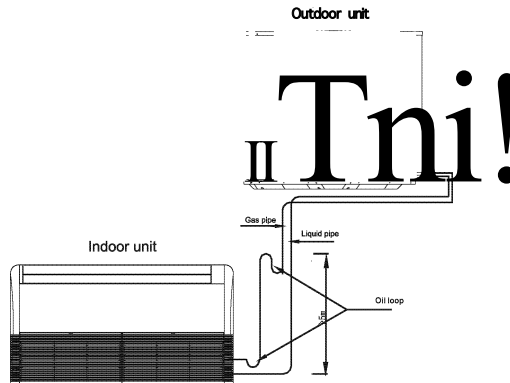

Fig 21
- When connect pipe length over 5 meters(single distance),use vacuum pump to exhaust the air; As for the unit utilizing R41 0A, it must use vacuum pump to exhaust the air no matter how long the pipe is. (Refer to Fig 21)
- ② Open Low pressure handle of the manifold Lo complete.
- ③ Start the vacuum pump to exhaust the air. Open valve Ba little to check whether the air come in or not.(The noise from vacuum pump changes and the reading of gauge alters from negative to zero),and then tighten the valve nut.
- ④ After exhausting the air, close Low pressure handle of the manifold (Lo) completely.
When the height difference between indoor and outdoor units is relatively large, oil loops should be used to facilitate for oil return. Please refer to the following typical mounting methods in Fig 21